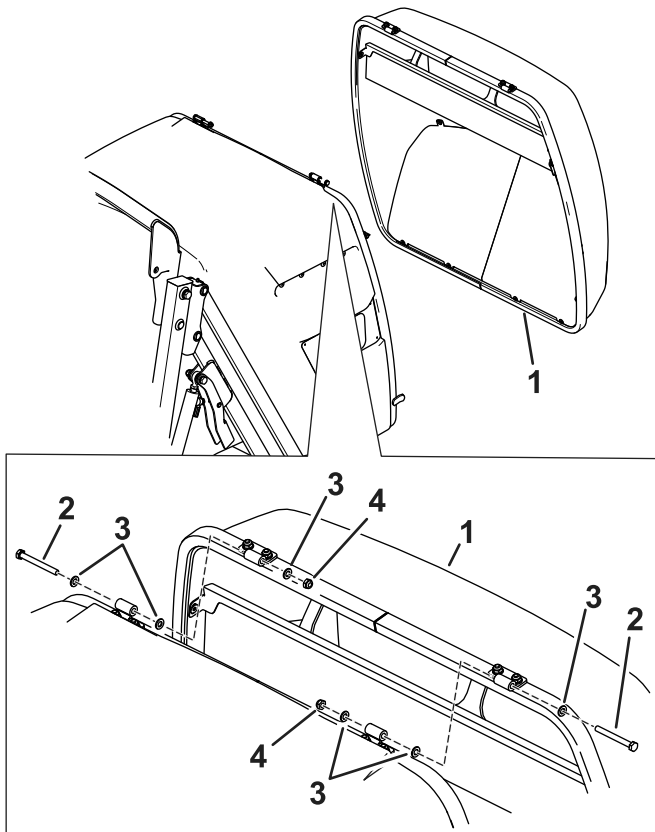

Figure 2
2. Install the hopper door to the hopper with the previously removed hardware; refer to Figure 2.